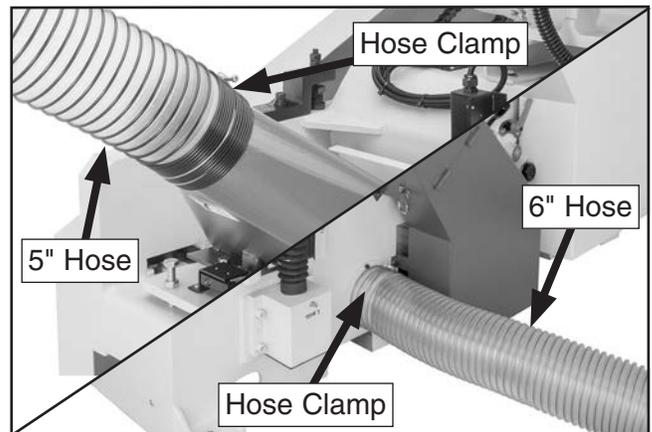

Figure 20. Dust hoses attached to dust ports.
1. Fit 5" and 6" dust hoses over dust ports and secure in place with hose clamps (see **Figure 20**).